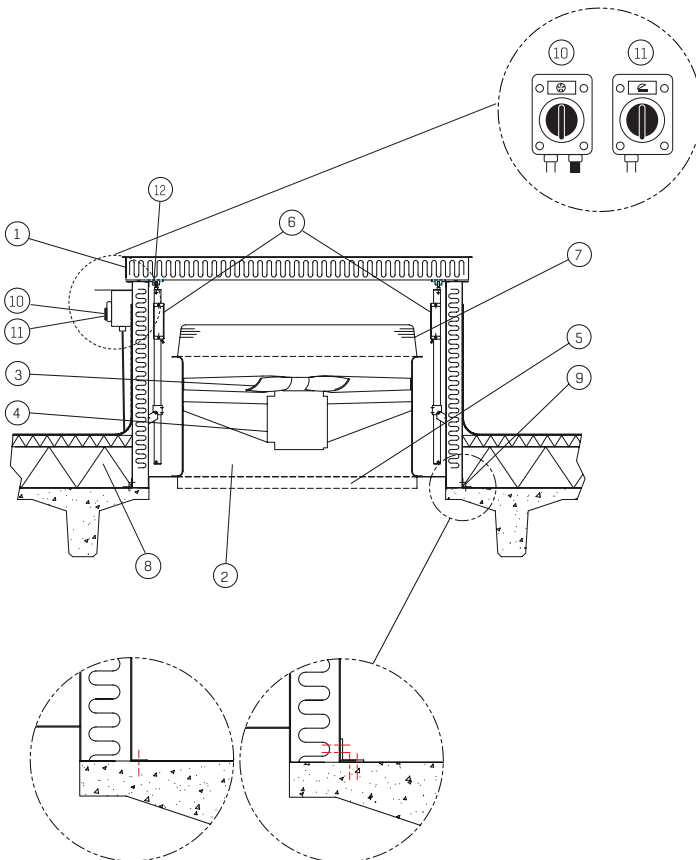

Figure 1
9. Roof Installment Options - see figure 1 and 2.